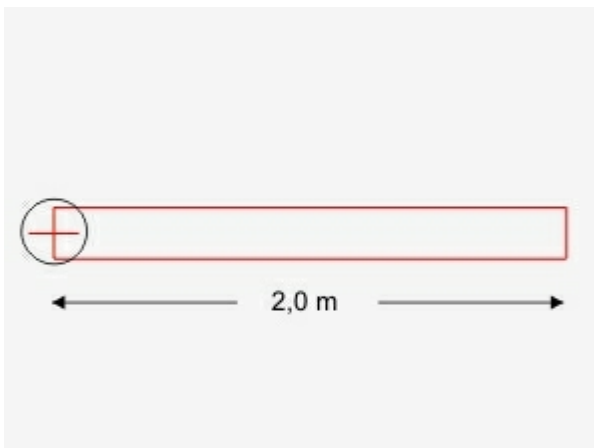

Figure 3
- The reference point is automatically **placed at the mid point** of the wall (encircled in Figure 3). This ensures that you can precisely **halve the wall**, although you can choose any point along the wall for splitting.